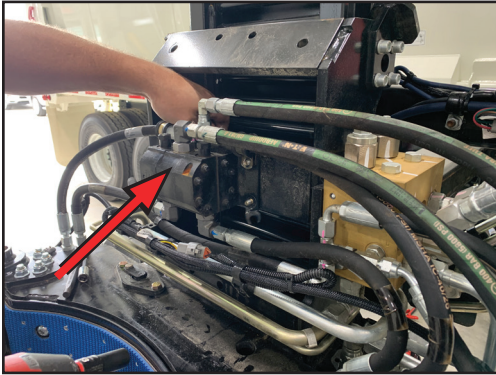

Figure 1
5. Remove the hoses and fittings from existing flow divider (Figure 1). Plug and cap the connections.